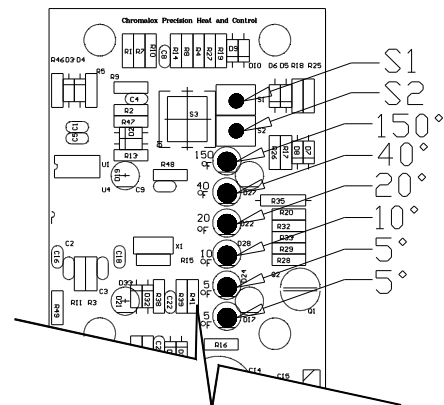

Figure 1
2. Locate the pushbutton S1 and S2 on the rear of the control. (see Figure 1)